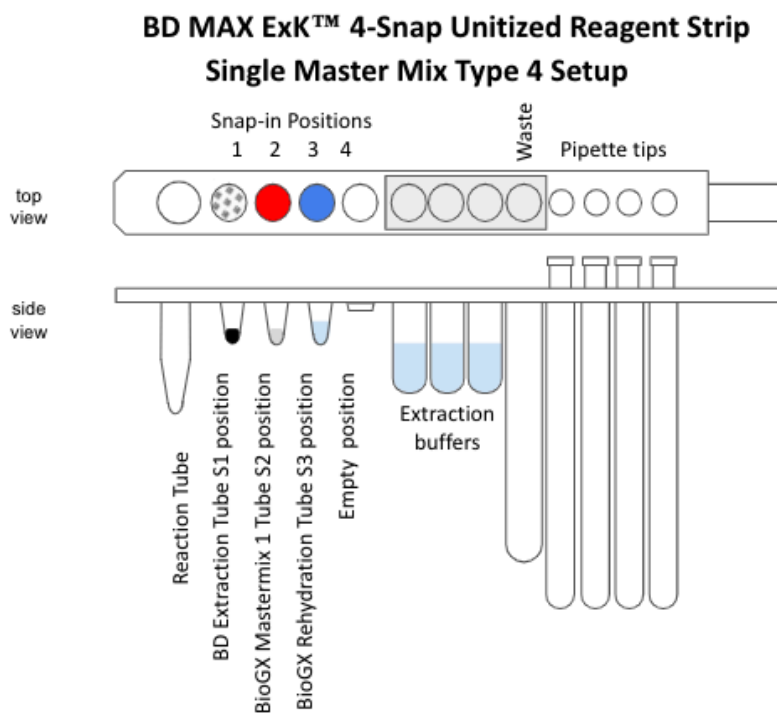

Figure 1 – Diagram of BD MAX™ ExK™ snap and 4-snap Unitized Reagent Strips
4. Snap one BD MAX™ ExK™ DNA-3 Extraction Tube into position 1 (Snap-1) of each Unitized Reagent Strip (Figure 1).